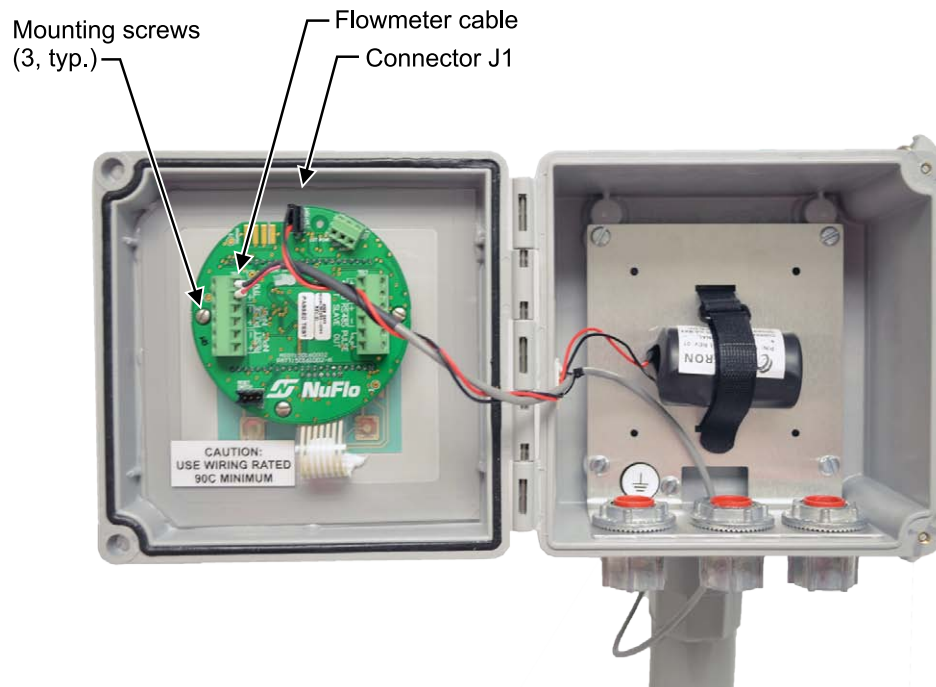

Figure 6.3—Removal of circuit assembly
5. Using a small Phillips screwdriver, remove the three screws from the circuit assembly (Figure 6.3).
1. Using a small Phillips screwdriver, remove the three screws from the circuit assembly (*Figure 6.3, page 92*).